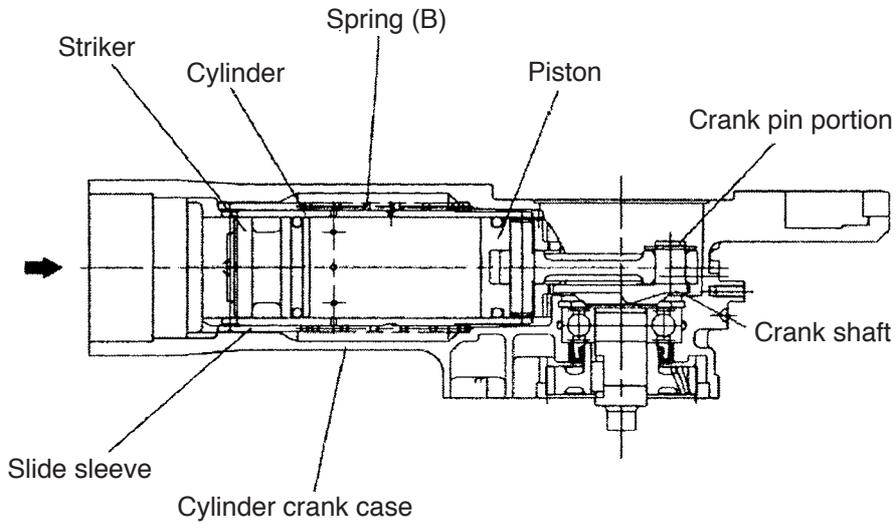

Fig. 22
Move the crank pin of the Crank Shaft [42] then move the Piston [35] to the top dead center. Insert Spring (B) [32] into the cylinder case of the Cylinder Crank Case [47] then insert the assembly of the Cylinder [30], Slide Sleeve [31] and Striker [28] into the Cylinder Crank Case [47] (Fig. 22).